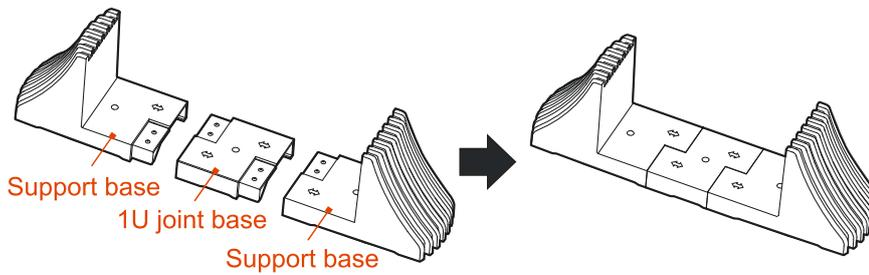

Figure 3-4 Assemble support base
Step 1 Take out a pair of support base and 1U joint base, assemble them together, as shown in Figure 3-4, and lay them flat for the UPS tower base.